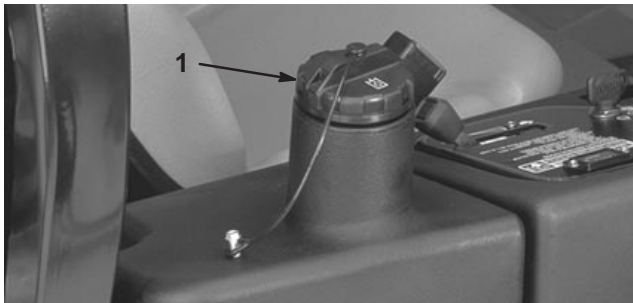

Figure 20
2. Clean the area around the filler neck and cap of the hydraulic tank (Fig. 20). Remove the cap.